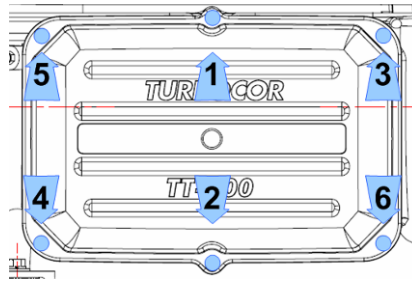

Figure 9 – Service Side Cover Install
7. Place the Service Side Cover and secure it with the fasteners according to the following sequence. Refer to Figure 9 (Service Side Cover Install).